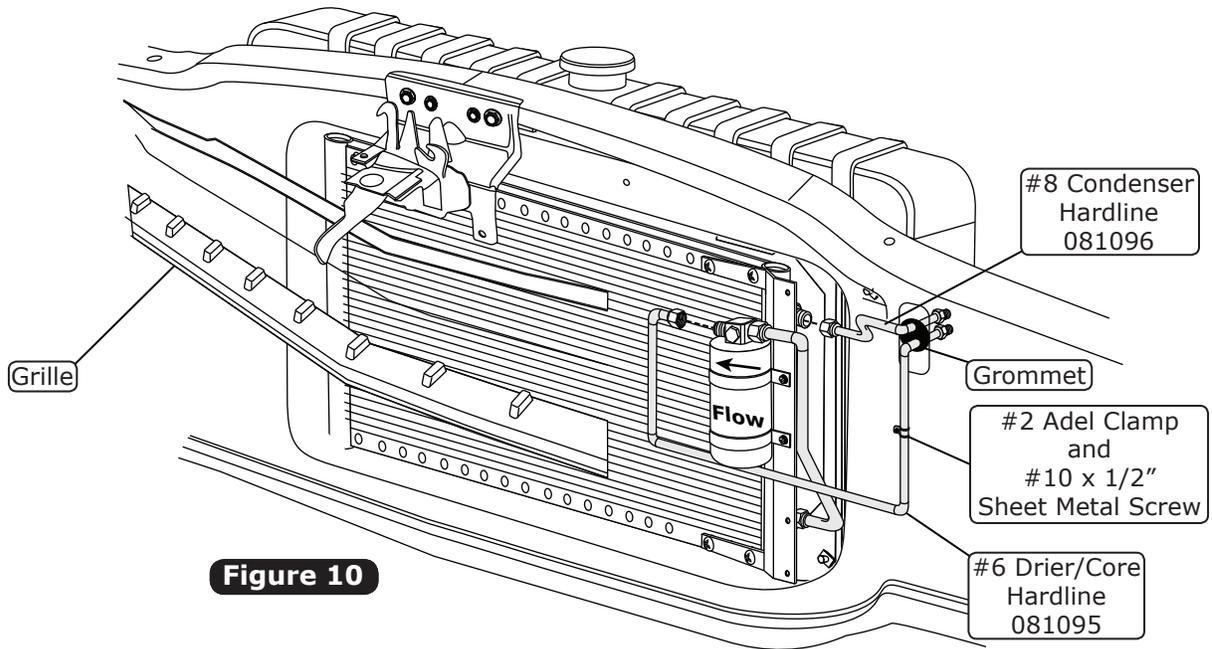

Figure 10
2. Install the #6 drier/core hardline and the #8 condenser hardline as shown in Figure 10, below. Tighten fittings as shown in Figure 5, Page 8.
3. Secure the #6 drier/core hardline onto the core support with a #2 Adel clamp and a #10 x 1/2" sheet metal screw as shown in Figure 10, below.